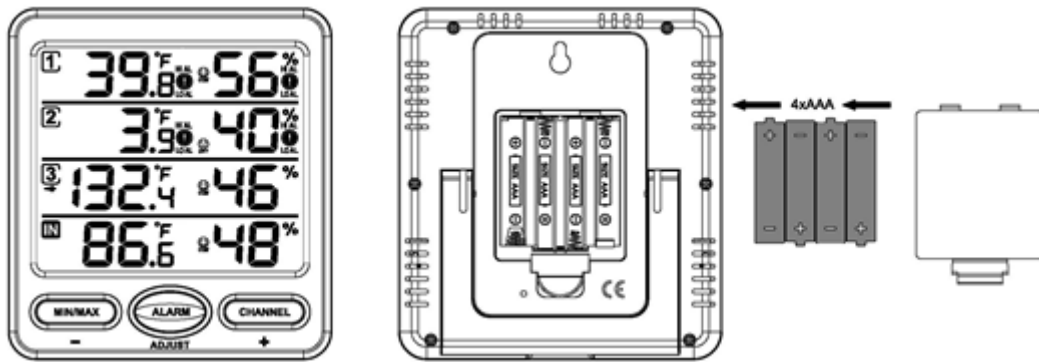

Figure 4
2. Remove the battery door on the back of the display, as shown in Figure 4. Insert four AAA (alkaline or lithium, avoid rechargeable) batteries into the back of the display console.